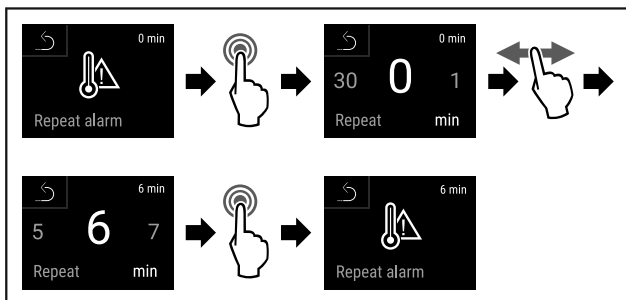

Fig. 143
- ▶ Complete steps (see Fig. 143).